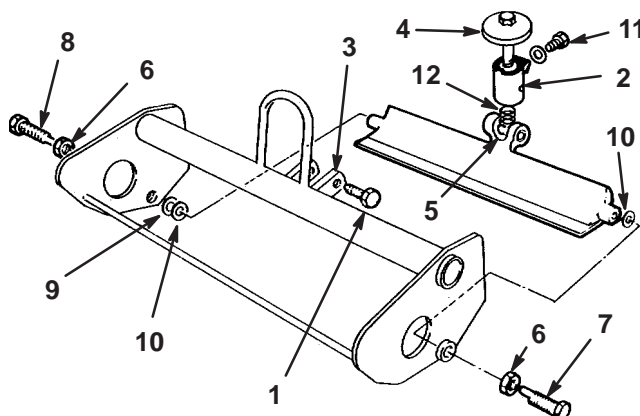

Figure 12
1. Remove the spring arm retaining capscrew and washer from the pivot assembly. Loosen the pivot screws securing the bedknife pivot assembly to the reel frame supports (Fig. 12).
2. Rotate the adjustment knob and pivot assembly clockwise (left-hand thread) until it is unthreaded from the bedbar pivot (Fig. 12).
3. Loosen the jam nuts retaining the right and left bedbar pivot bolts. Remove the pivot bolts (Fig. 12).
Tighten the jam nut while holding the shoulder bolt (Fig. 12).
4. Thread the adjustment knob and pivot assembly into the flat side of the bedbar pivot until the mounting holes in the pivot assembly are aligned with the holes in the reel frame supports and the bedknife does not interfere with the reel (Fig. 12).